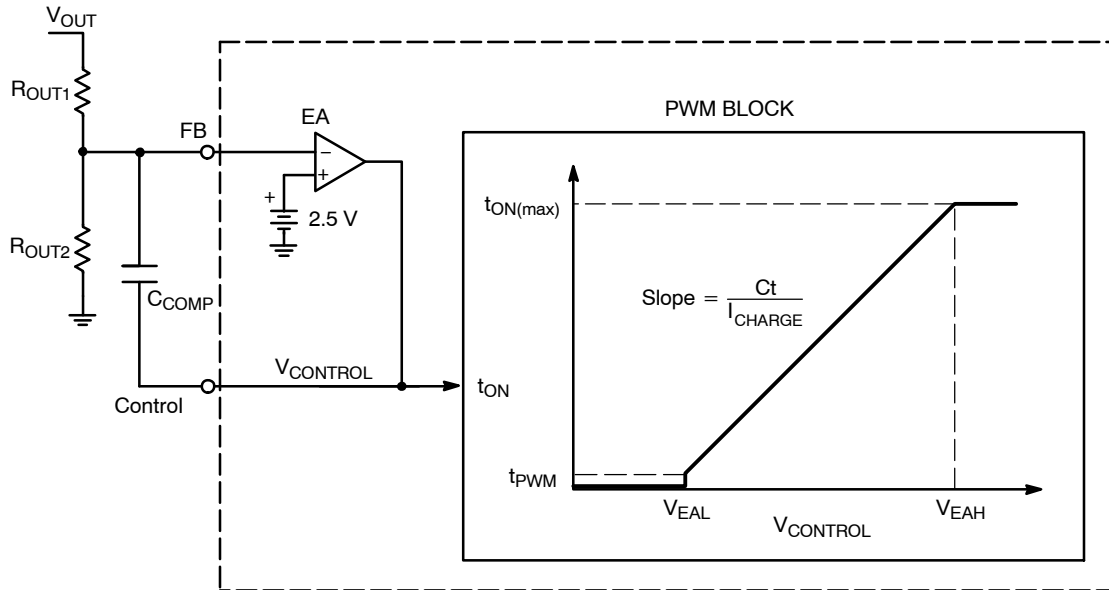

Figure 25. Error Amplifier and On Time Regulation Circuits
The NCP1606 is configured to regulate the boost output voltage based on its built in error amplifier (EA). The error amplifier’s negative terminal is pinned out to FB, the positive terminal is tied to a  $2.5 V \pm 1.6\%$  reference, and the output is pinned out to Control (Figure 25).